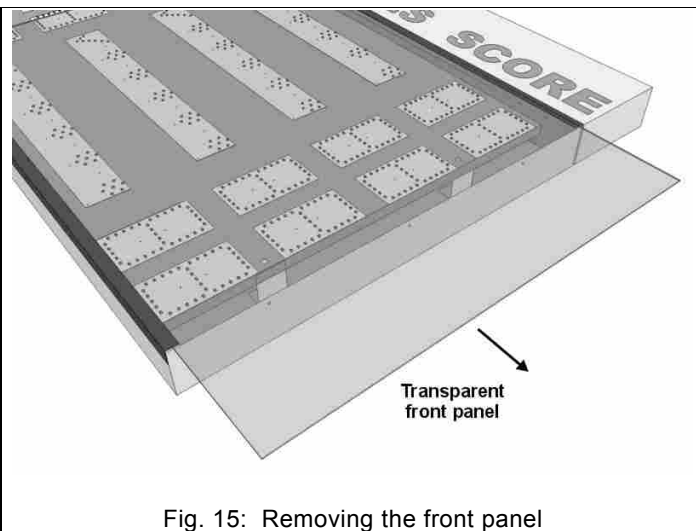

Fig. 15: Removing the front panel
3. Remove the transparent front panel (Fig. 15).